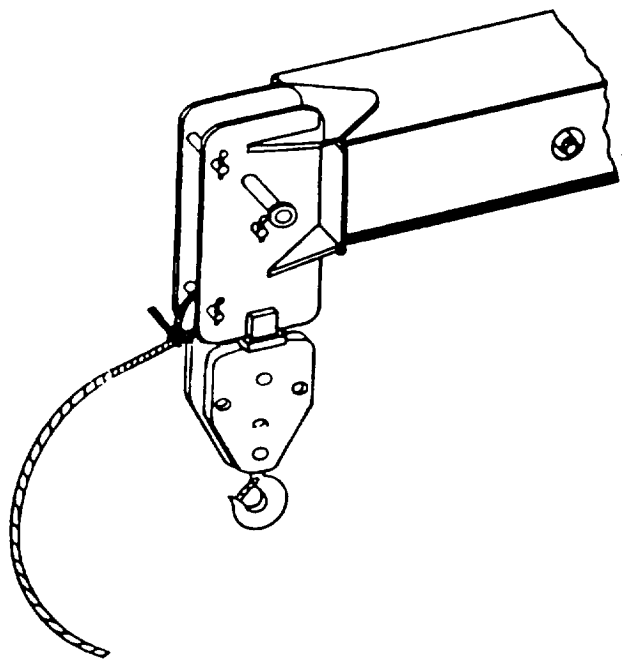

Figure 5-24 *Attached Tether Rope*
1. Remove tether rope from tool box and knot rope to boom head quick reeving pin (Figure 5-24).